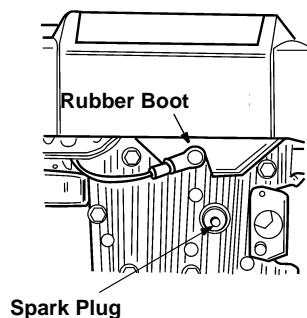

Figure 2
- Disconnect spark plug wire from the spark plug and attach rubber boot to a bolt on the engine to ground. See Figure 2.